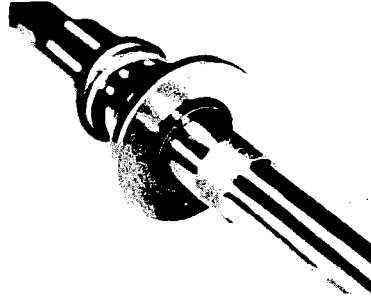

Figure 5
5. Lubricate the face of the carbon ring in the mechanical seal and place the stationary seat on the power rotor. Install inner retaining ring (fig. 5).